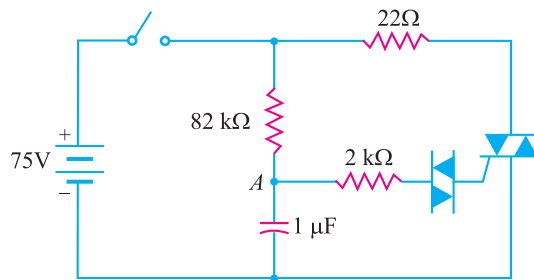

Fig. 21.23
**Example 21.6.** In Fig. 21.23, the switch is closed. A diac with breakover voltage  $V_{BO} = 30\text{V}$  is connected in the circuit. If the triac has a trigger voltage of  $1\text{V}$  and a trigger current of  $10\text{ mA}$ , what is the capacitor voltage that triggers the triac?